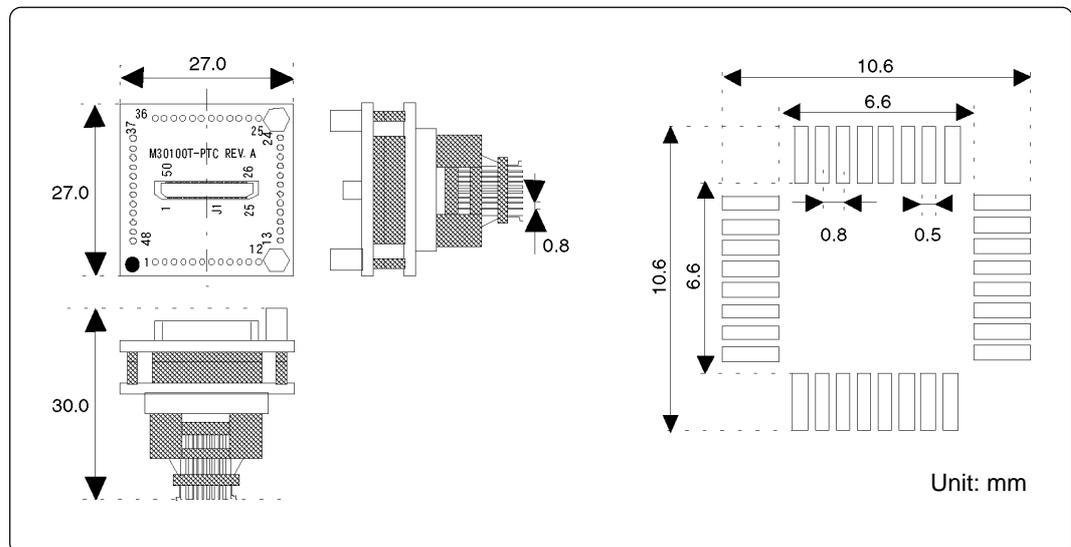

Figure 4 External dimensions of the M30100T-PTC and a sample foot pattern
6. External Dimensions of the M30100T-PTC and a Sample Foot Pattern (see Figure 4)